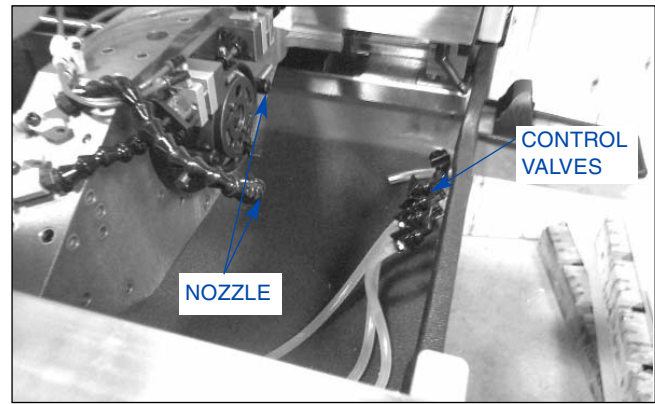

FIGURE 2-7, Flow Control Manifold
- FLOW CONTROL MANIFOLD is located inside work tray of Machine (see Figure 2-7). It provides independent regulation of Coolant flow to each Nozzle through Total Volume Control Valve and individual Nozzle Control Valves. The total volume control valve is used to turn coolant supply on and off, eliminating readjustment of individual nozzle control valve settings.
- Nozzles provide coolant to workpiece and mandrel. Four (4) independently controlled Coolant Nozzles are easily positioned to assure an even flow of coolant through workpiece during honing operation. Coolant flow to each of independent nozzles is adjustable by individual Nozzle Control Valves.